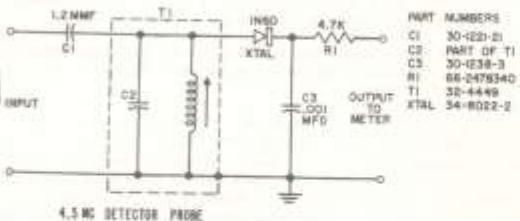

Figure 1. 4.5 mc Detector Tube
(1) Inject 4.5 MC AM signal into L43 or use station signal.
(2) Connect 4.5 MC detector (see circuit, figure 1) to L26 (pin 7 of CRT).